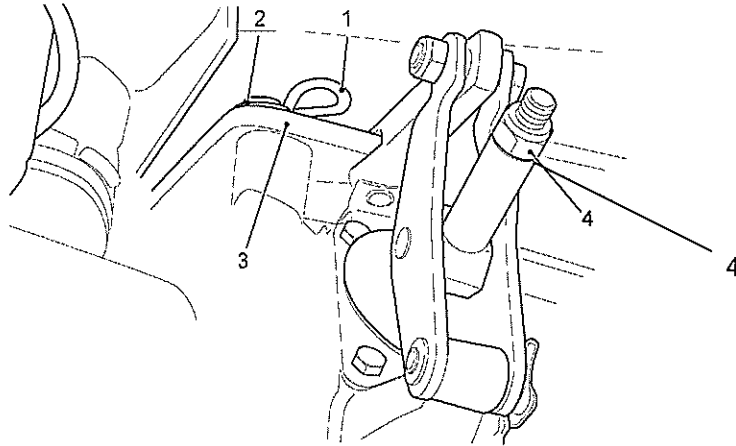

Fig 20 Remove locking spring and angle lever
- 50 Pull off locking spring (see Fig 20 (1)) and remove angle lever (3) with washer (2) from cutting bolt.
- 65 Fit angle lever with washer and locking spring (see Fig 20).